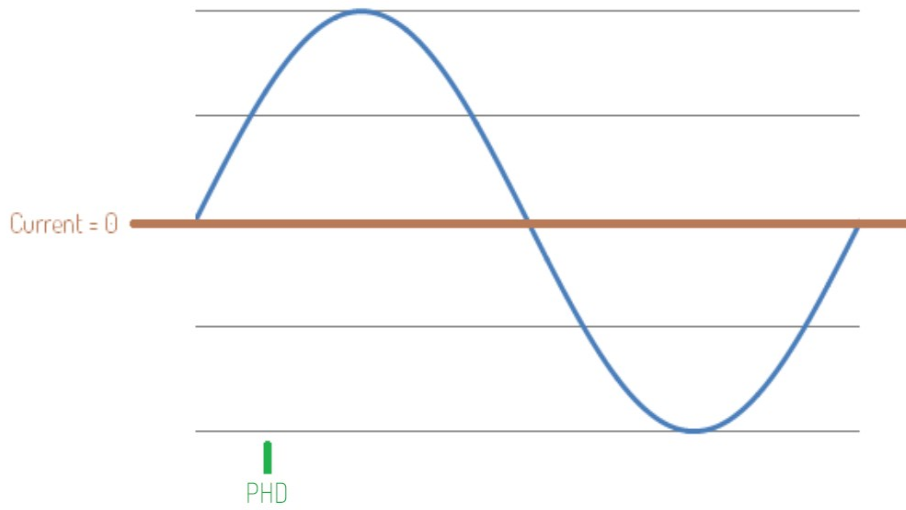

Figure 93. Phase detect trigger.
- PHD – Phase detect, A signal reached given phase (only applicable to tACS) (Figure 93)